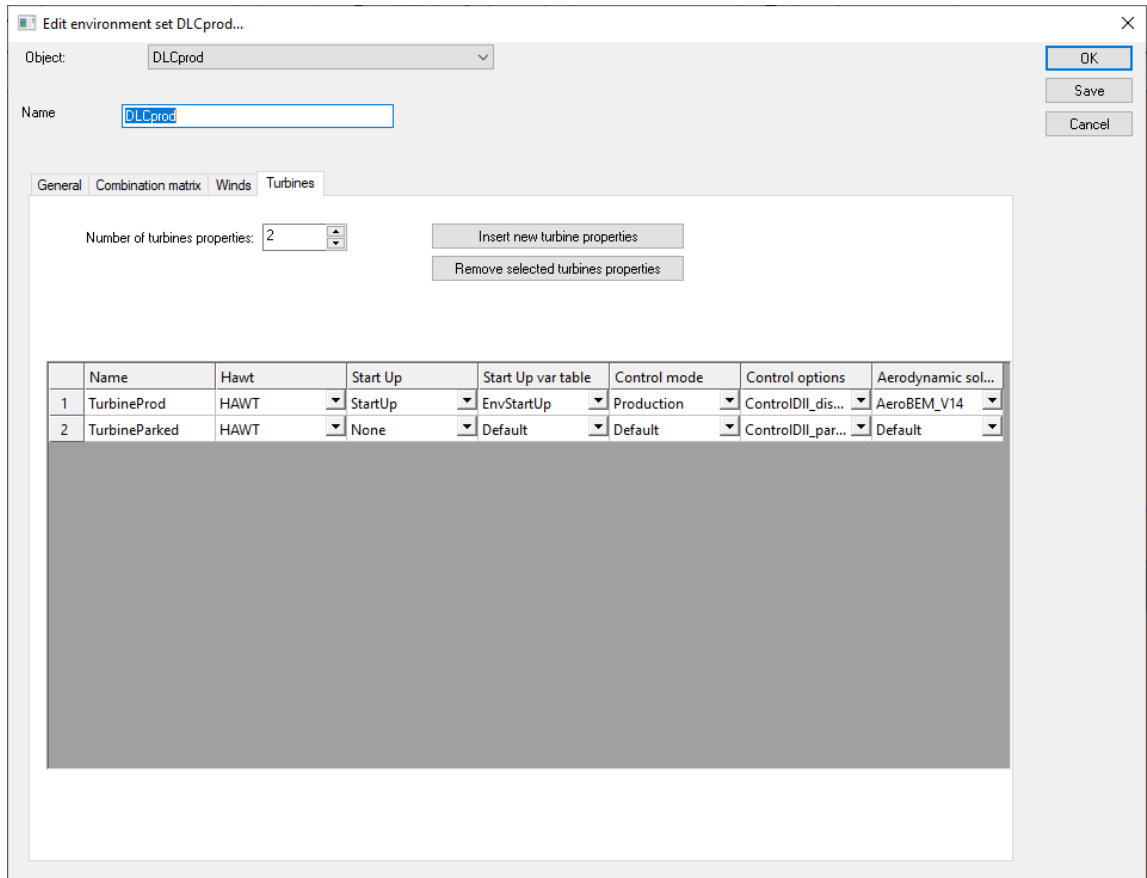

Figure 4-2 : Example of turbine options in an EnvironmentSet
As shown on Figure 4-2, every turbine load case is defined by:
- 3) Define an EnvironmentSet to apply the Environmental table on the previous Start-up in an EnvironmentSet (see Figure 4-2).